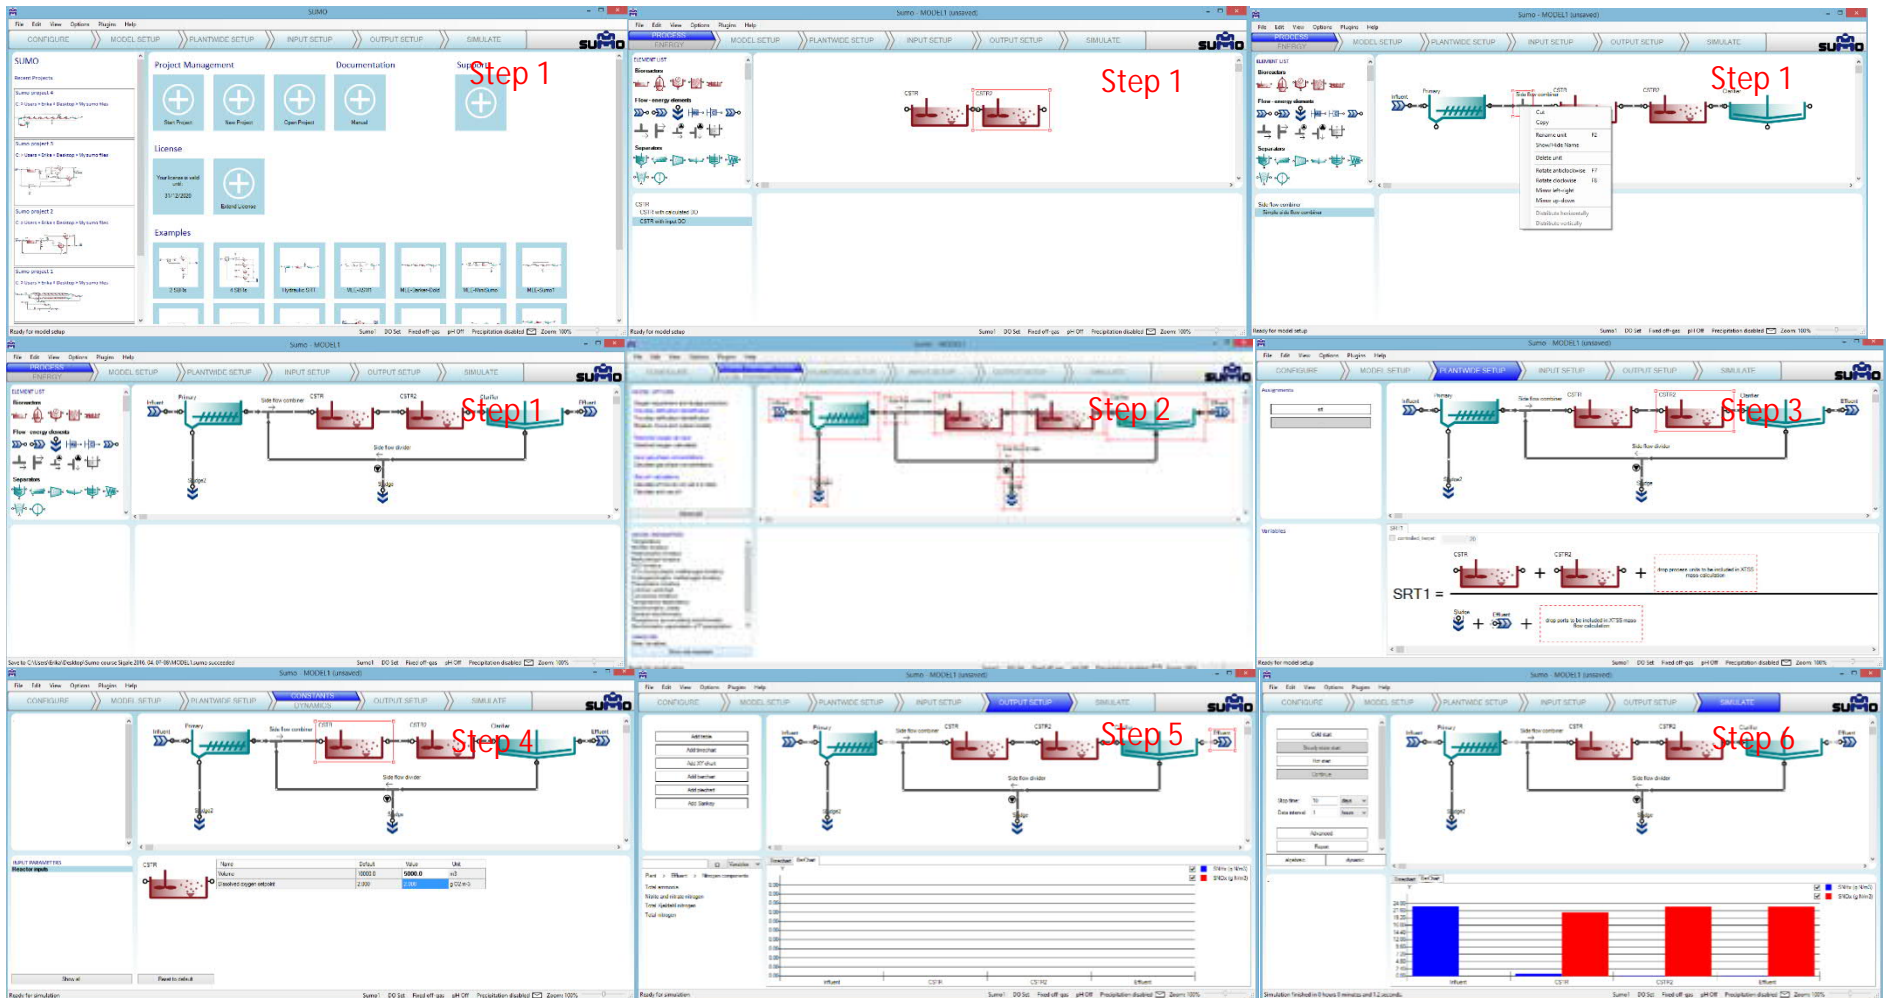

Figure 1. Steps involved in MODEL1 – Exercise
The purpose of this exercise is to familiarize users with the SUMO software through a simple example. Users will learn to use the basic functionality of Sumo: simulate oxygen uptake rates and concentrations of ordinary heterotrophs in a simple plant. Steps to follow (also please refer to Figure 1, to see the steps described below. Note. Figures are from SUMO16, small differences to version 19 are possible):
Select process units from the PROCESS UNIT LIST and configure a model, (hover your mouse over the units to see labels). Selected process units are placed on the drawing board by clicking on the unit, dragging and dropping on the drawing board. The configuration to be built can be seen in Fig. 1. A selected process unit can be renamed by pressing F2 or choosing the 'Rename' option in the right click unit context menu.
4. Customizing the model: Click the "INPUT SETUP" tab and select "CONSTANTS". Selecting input and/or initial conditions: change the volume of the two reactors from 10,000 to 5000 m³ while keeping the rest as default. The reactor volume can be changed by selecting the reactor and changing the "Volume" in the "Reactor settings" group under the "INPUT PARAMETERS" panel (bottom left panel). For illustration check Fig. 1.